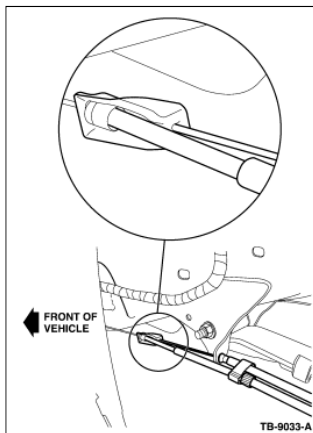

Figure 1 - Article 08-11-1
2. Correctly position the parking brake cable equalizer to ensure the LH and RH parking brake cables do not twist or bind during operation. (Figure 1 - LH side)
2. Correctly position the parking brake cable equalizer to ensure the LH and RH parking brake cables do not twist or bind during operation. (Figure 1)